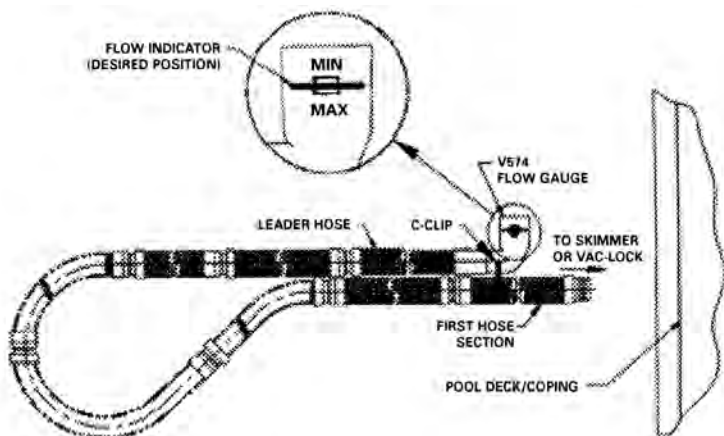
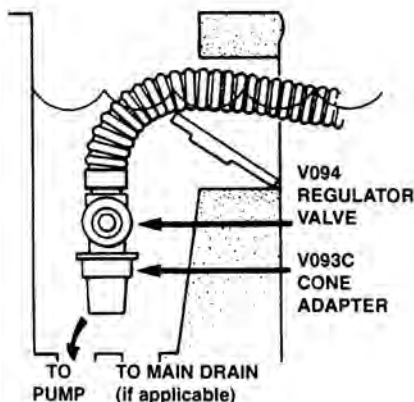

Figure 2
Figure 4
**This extra length is absolutely necessary for proper operation of your Hayward Cleaner.** If the hose is not long enough, it will be necessary to purchase additional hose sections from your Hayward dealer. The hose length supplied has been determined to be sufficient for the class and size of pools for which each type of cleaner is sold – 40 feet for PV XL & NAV Pro, 32 feet for PV Classic. If your hose requirement is more than this, you must obtain additional hose sections for your cleaner to work properly. After the correct hose length has been assembled, fill hose completely with water. Insert Flow Gauge into the leader hose, then attach the C-Clip of the gauge onto the first hose section. Make sure the Flow Gauge is under water. (see Figure 2)
Check the water flow reading on the Flow Gauge. (Refer to Step 4, Figure 2). The black disk should be in the box between the “MIN” and “MAX” markings. If the setting is higher than required with the black disk outside of the box on the “MAX” side and you have connected your hose to the skimmer, it will be necessary to reduce the vacuum/water flow by using a valve or valves in the filter system, or the Hayward V094 Regulator Valve or an optional Hayward Automatic Skimmer Vacuum Plate designed to adjust vacuum/water flow. To install the V094 Regulator Valve, turn the filter system off, remove the hose from the V093C Skimmer Cone, and after closing the Regulator Valve (Rotate the blue collar clockwise until tight), insert the Valve into the Skimmer Cone, and insert the hose end into the Valve (see Figure 4).
If you have connected your hose to the Hayward Vac Lock, it will be necessary to adjust the vacuum/water flow using the 3-way valve at the filter system. The handle on the valve should be turned so that the Flow Gauge which is installed in the Cleaner hose reads properly (*refer to Figure 2*). After the 3-way valve has been properly adjusted, **the 3-way valve should be marked so that the water flow can be adjusted by referring to the valve handle mark**, rather than reinstalling the Flow Gauge in the hose each time an adjustment is necessary.
Some skimmers have two (2) holes in the bottom. There might be a valve, float or cover over the holes. Remove everything in the skimmer, exposing the holes. The rear hole is usually the suction port. In some cases it will be necessary to use the V094 Regulator Valve to control water flow through the Cleaner (*see Figure 4*).